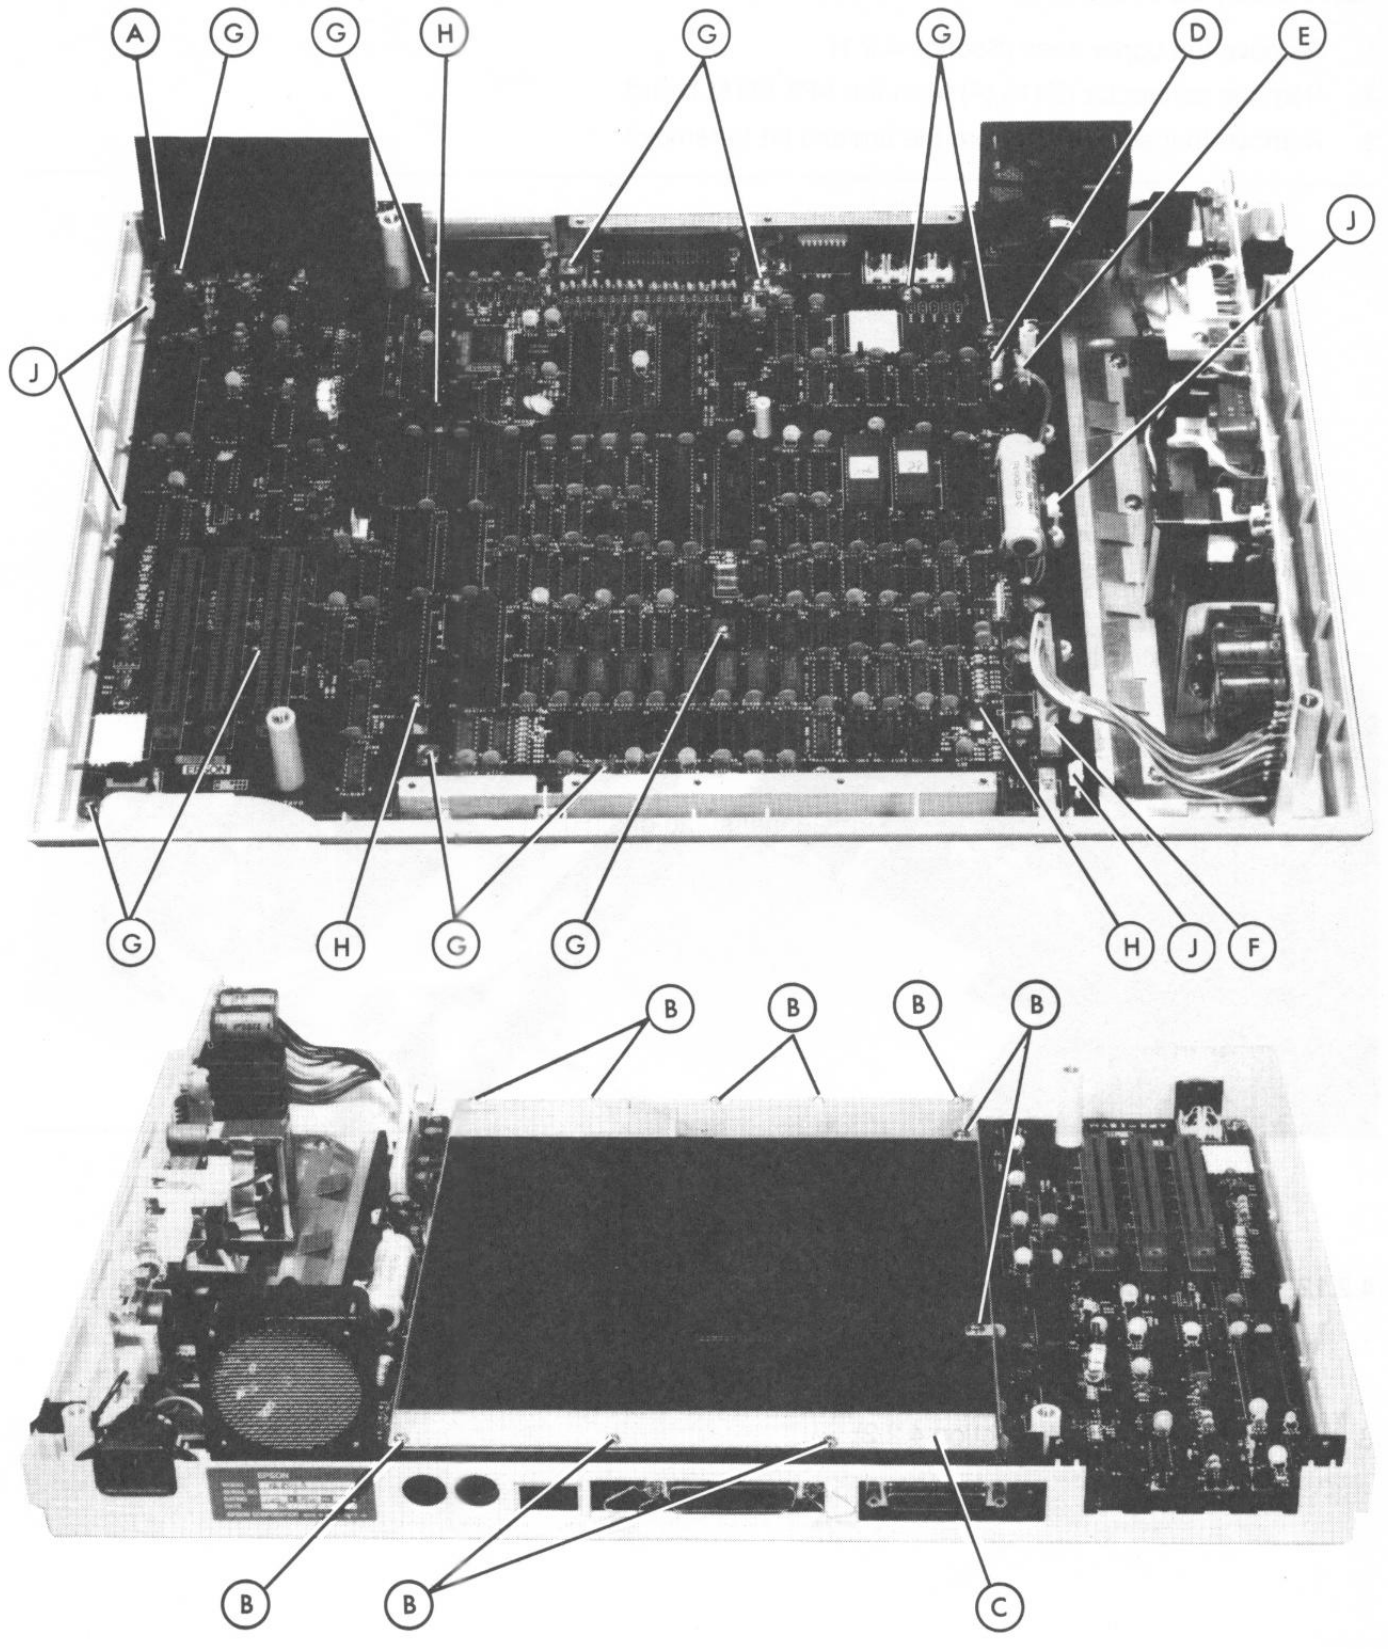

FIGURE 4-5. APX-ISYM CONTROL BOARD REMOVAL/REPLACEMENT.
4.2.9 APX-ISYM Board Removal (Figure 4-5)
4.2.10 APX-ISYM Board Replacement (Figure 4-5)